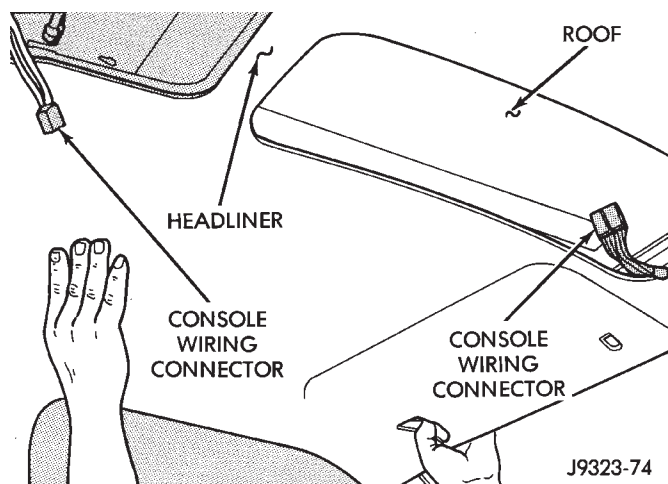

Fig. 27 Headliner Positioning/Front
(1) With the aid of an assistant, position headliner in vehicle (Figs. 27, 28, 29)